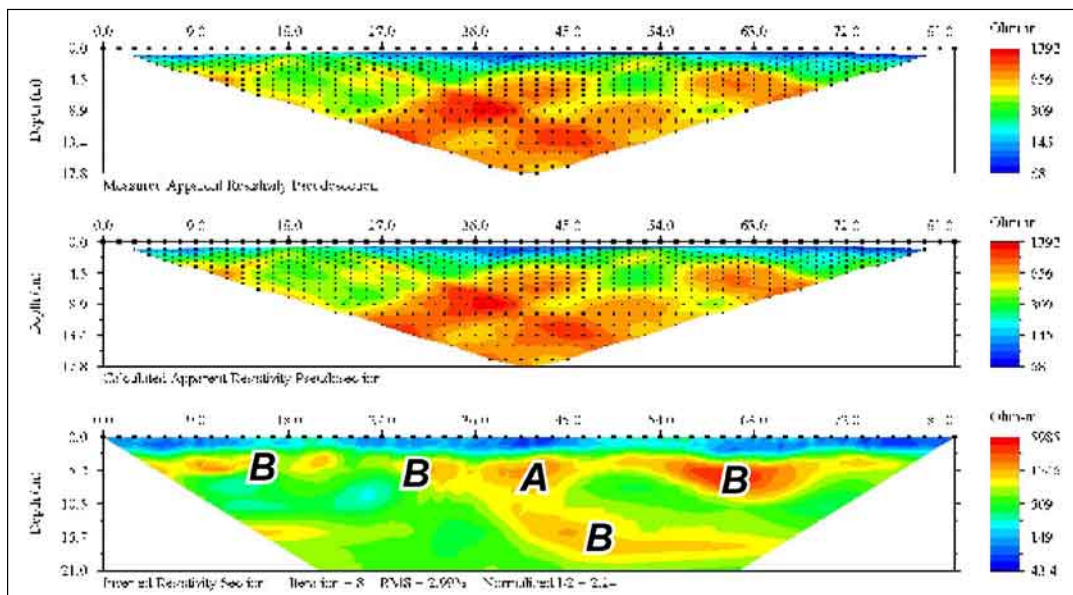

Figure 4. Measured (top) and apparent (middle) resistivity pseudosections and inverted section (bottom) of the golf course Supersting validation line.
The ERI Supersting profile acquired over the golf course feature is shown in Figure 4, along with the measured and calculated apparent resistivity pseudosections. The inverted section converged in eight iterations with an RMS error of less than 3 percent. The known lava tube feature (A) was successfully delineated in location, approximate depth, and dimension. New, previously unknown features (B) likely represent open or partly collapsed lava tube systems.